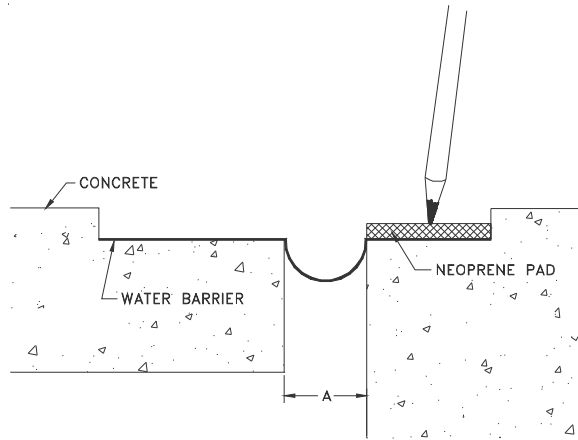

Figure 6
STEP 12. Mark the locations for the pad anchors on the 3" wide pad (see Figure 6). Center the anchors along the pad. The anchor hole spacing is a nominal 20" o.c. between the locations marked in Step 10.